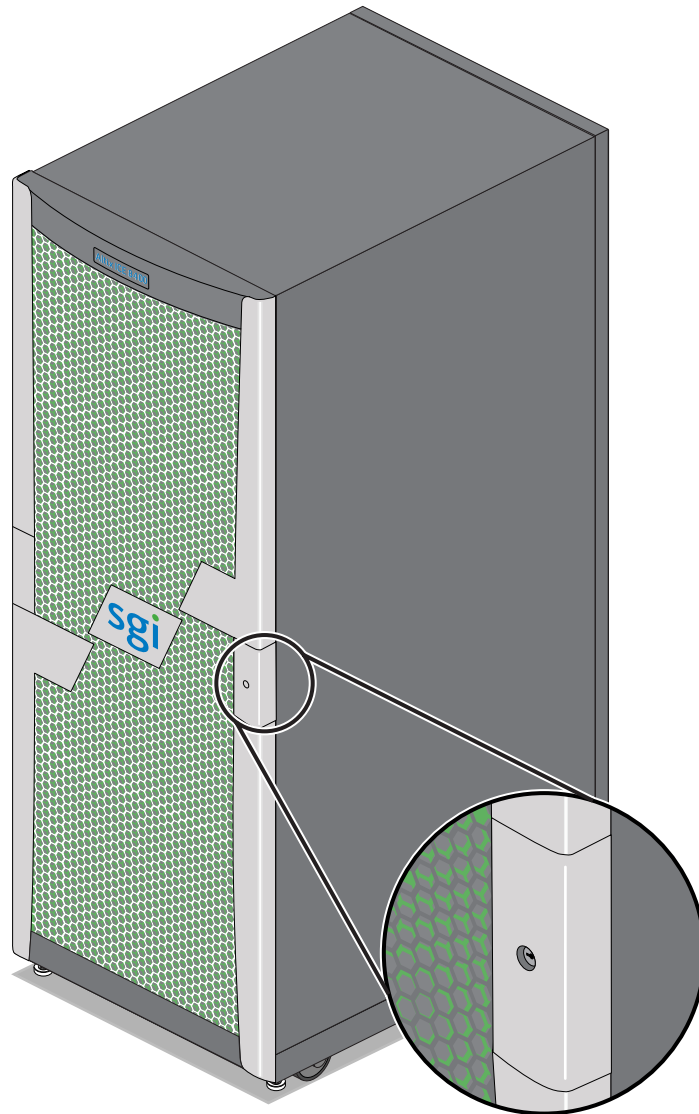

Figure 4-2 Front Lock on Tall (42U) Altix Rack
At the time this document was published only the tall (42U) Altix ICE rack (shown in Figure 4-2) was approved for ICE system racks shipped from the SGI factory.
- **Front and rear door.** The front door is opened by grasping the outer end of the rectangular-shaped door piece and pulling outward. It uses a key lock for security purposes that should open all the front doors in a multi-rack system (see Figure 4-2 on page 44).